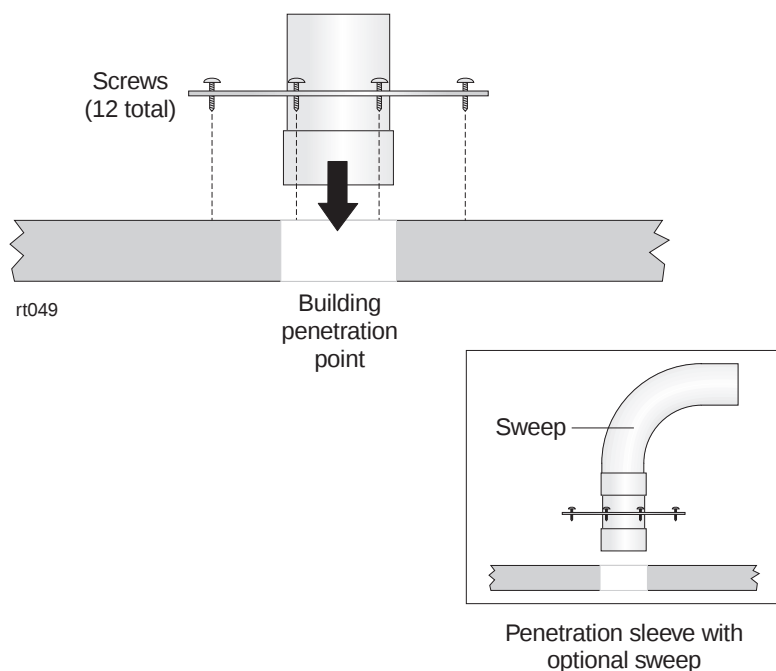

Figure 5-3 Installing the hub penetration sleeve
1. Use twelve screws to attach the hub penetration sleeve (sleeve and coupling) to the building surface at the building penetration point. See figure 5-3.
Note: The penetration sleeve location is site-specific and dependent on the building penetration point. An optional sweep, shown in figure 5-3, is available for use with the penetration sleeve for locations where space is limited.
2. Run the cable from the IDU chassis location, through an existing conduit if possible, through the hub penetration sleeve (figure 5-3), to the lightning arrestor location. Use a stand so the cable spool spins freely as it is pulled. Leave a service loop.